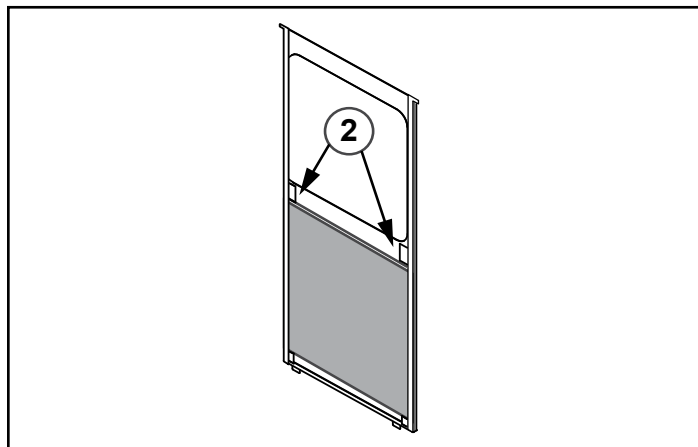

Figure 24.5
3. Stack non-combustible material tiles in tile frame as shown in **Figure 24.2** by sliding first tile in, bend tabs on back side **Figure 24.5**, then slide last tile in position so that it rests on tabs.